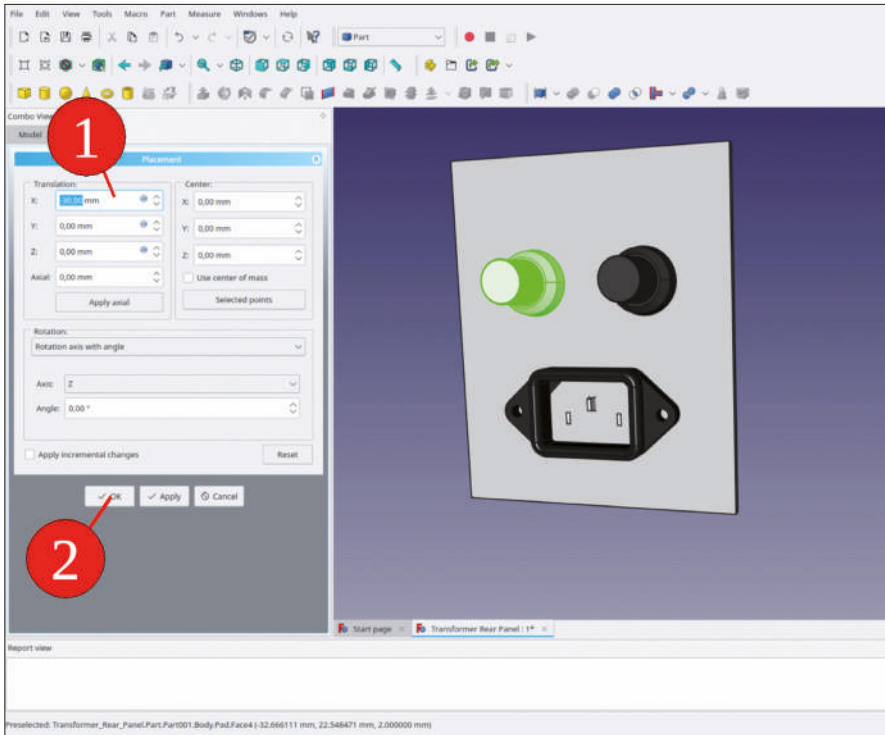

Figure 9-44
7. Edit the 'Link placement' parameters and set the translation to -30 mm (Figure 9-44).